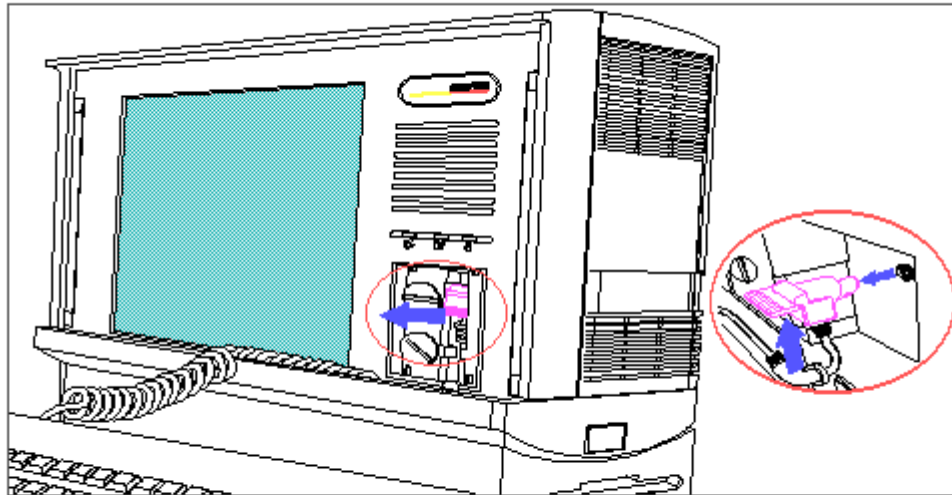

Figure 5-4. Removing the Keyboard Cable
3. Disconnect the keyboard cable by gently pulling the keyboard connector tab (Figure 5-4).
4. Carefully remove the keyboard cable from the cable slot (Figure 5-4).